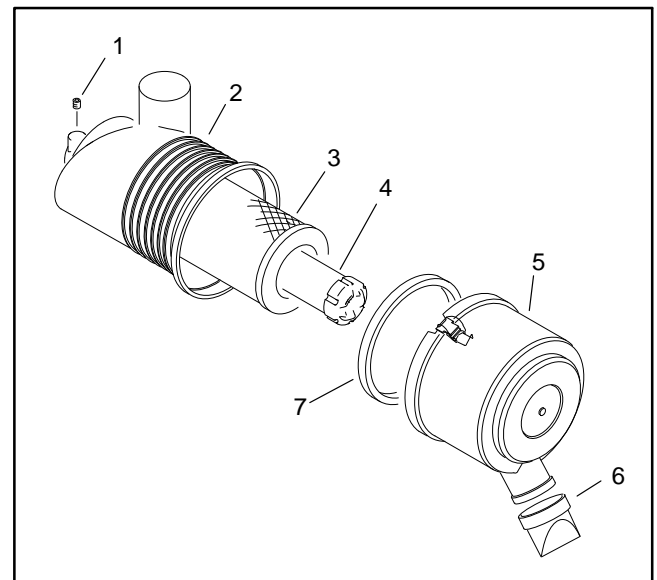

Figure 5
3. Gently slide the primary filter out of the air cleaner body (Fig. 5). Avoid knocking the filter into the side of the body.
6. If you are replacing the safety filter, carefully slide the new filter into the filter body (Fig. 5).